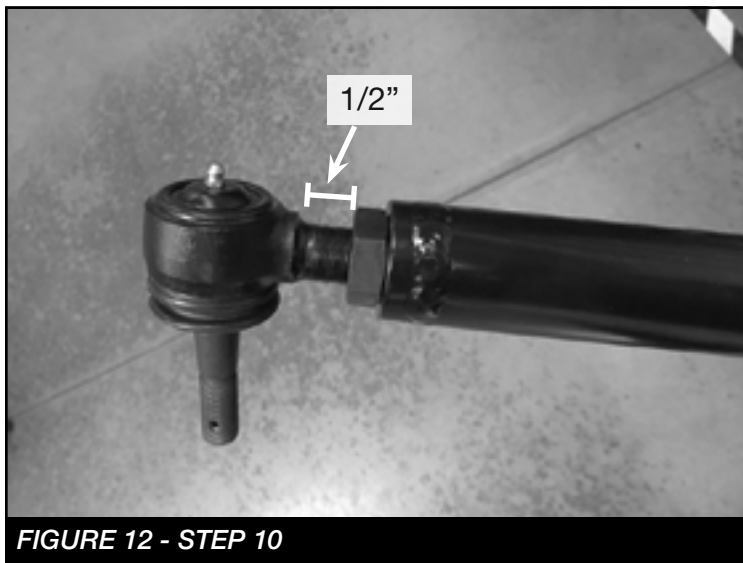

FIGURE 12 - STEP 10
9. Install the supplied Jam Nut on the FT50705 (Tie Rod End). **NOTE: When installing leave 1/2" space between the jam nut and the end of the thread on the rod end. This is a starting point, final adjustments will be made when alignment is made. SEE FIGURE 12.** Install the new rod end into the drag link.